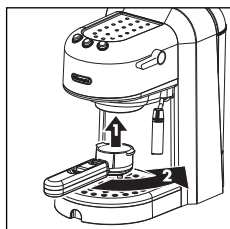

fig. 5
2. Attach the empty filter holder (without coffee) to the machine by positioning it under the boiler outlet with the handle towards the left (fig. 5). Push upwards and at the same time turn the handle as far right as possible. It does not matter if the handle is not centrally aligned with the machine, as long as the filter holder is firmly attached to the appliance.
3. Remove any excess coffee from the rim of the filter holder. Attach the filter holder to the machine by positioning the handle to the left of the boiler outlet, then pushing upwards and turning the handle to the right (as in preheating the machine fig. 5).
4. Attach the filter holder onto the machine, moving from left to right (fig 5).